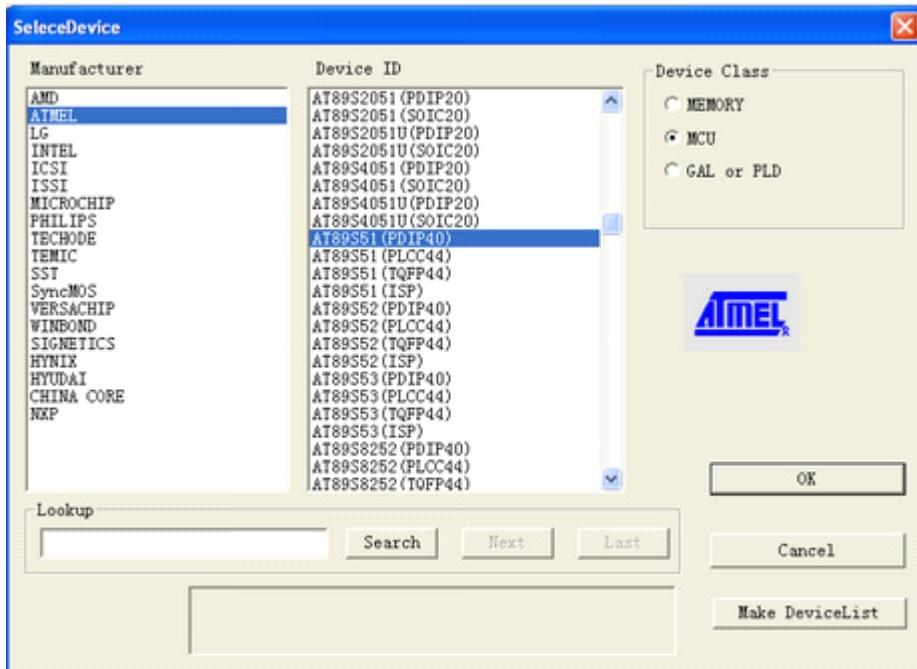

Figure 18 Getting Start Select Device
Step 1 Select the device supporting: First of all you should select a device matching with the device you want to programmed. By click the Sel_Dev key on the main tool bar, the “SelectDevice” Window will appear. Select Device Class depend on the device. In this example, the AT89S51 is a MCU, so click MCU radio button. Select the Manufacturer as ATMEL. Then select the Device ID as AT89S51(DIP40). See the Figure 18.